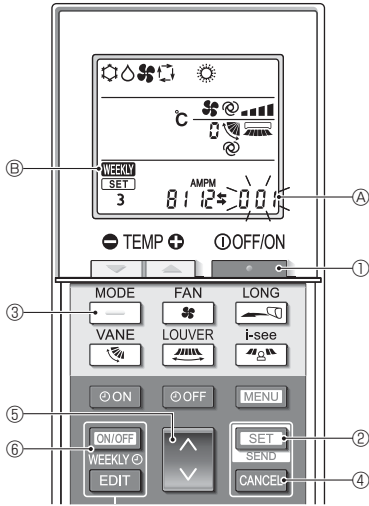

Fig. 4-12
- Press the **MENU** button ②.
4.12.8. How to disable Auto mode operation (Fig. 4-12)
1. Press the **STOP** button ① to stop the air conditioner.
- If the weekly timer is enabled, press the **ON/OFF WEEKLY** button ⑤ to disable the timer. (**WEEKLY** Ⓔ disappears.)
2. Press the **SET** button ② for 5 seconds.
3. Press the **UP** button ④.
4. Completing the settings (Fig. 4-12)
- Press the **SET** button ② for 5 seconds.